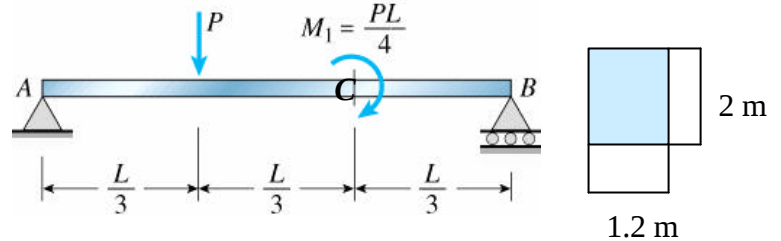

Figure 5
Problem #5 The simple support beam AB shown in the figure 5 is subjected to a concentrated load P and a couple $M_1 = PL/4$ acting at the third points. (1) Draw the shear-force and bending-moment diagrams for this beam. (2) If $P = 360 \text{ kN}$, $L = 10 \text{ m}$, and the dimensions of the cross section are given in the figure 5, calculate the maximum principle stress and maximum shear stress along the beam, and (3) draw its Mohr's circle for the point. (18 %)